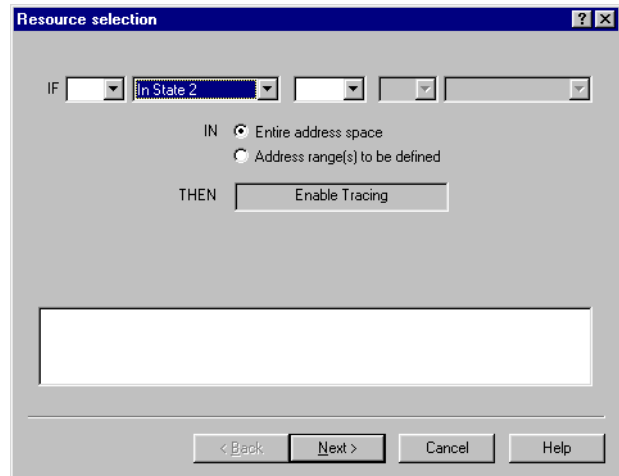

Figure 8-42 Resource selection for Enable Tracing
1. Double-click **Enable Tracing** in the Actions list to define a rule. The Enable Tracing Resource selection dialog box shown in Figure 8-42 is displayed.